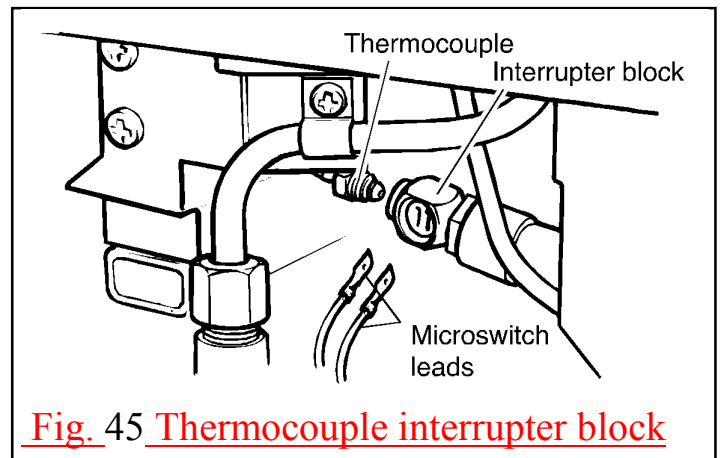

Fig. 45 Thermocouple interrupter block
3. Loosen the thermocouple nut to free the microswitch leads and pull the leads clear of the thermocouple interrupter block. See figure 45.